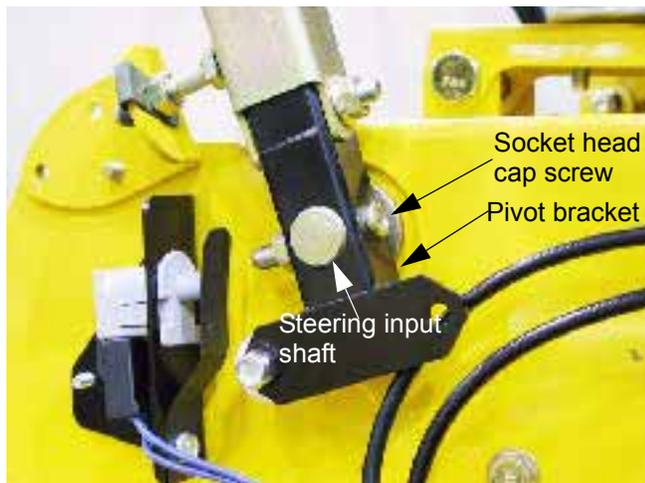

Figure 12.4
- 12.4. Remove the nut and socket head cap screw that hold the pivot bracket to the steering input shaft using a 1/4" Allen wrench and a 1/2" wrench. See Figure 12.4.